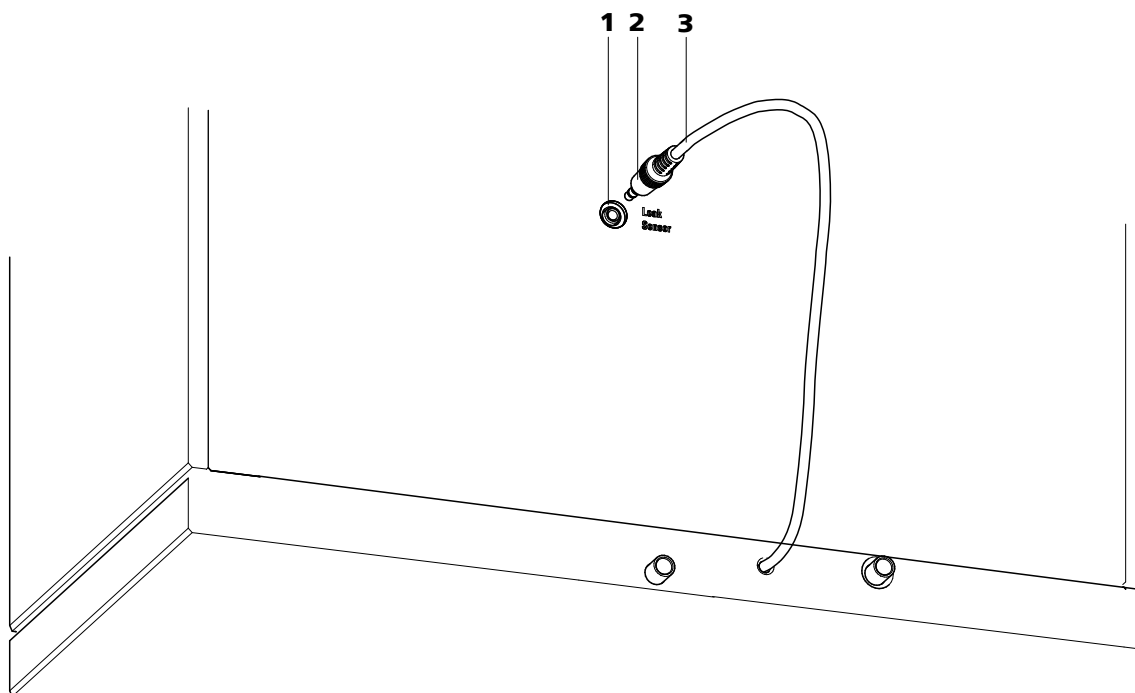

Figure 6 Connection of the leak sensor on the rear of the instrument
- 1 Plug the leak sensor connector plug (6-2) into the leak sensor connection socket (6-1) on the rear of the instrument (*see figure 6, page 19*).